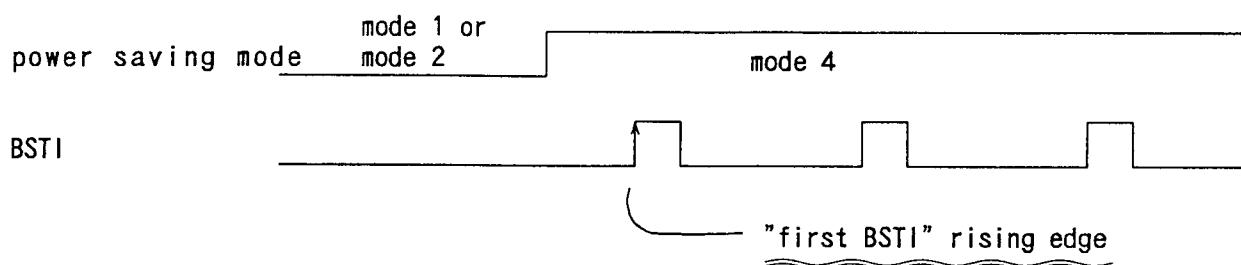

Fig. 3
- ① The "first BSTI" is defined as first burst signal input after recover of power down mode (full power down condition [mode 1] or partial energization condition [mode 2]). (Ref. Fig. 3) All timing inside the AK2391 use the rising edge of "first BSTI" as the start point. So, 384kHz internal clock, output signal, and another timing are decided by this rising edge.